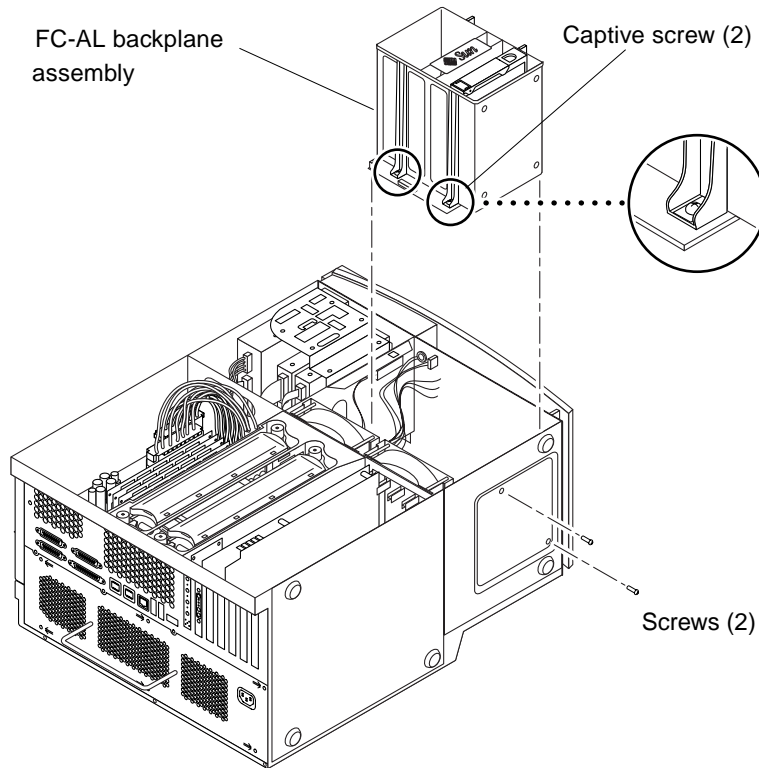

FIGURE 6-16 Removing and Replacing the FC-AL Backplane Assembly
7. **Using a No. 2 Phillips screwdriver, proceed as follows (FIGURE 6-16):**
1. Position the FC-AL backplane assembly in the chassis and connect it to the chassis cutouts (FIGURE 6-16).